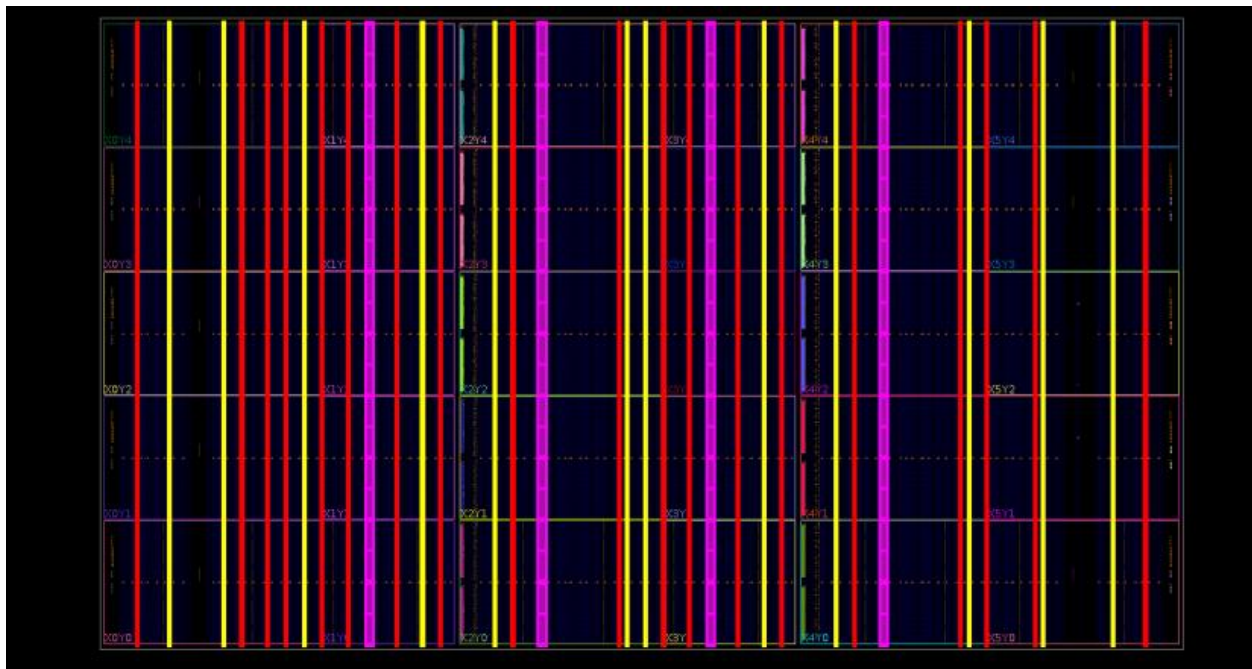

Figure 1: This figure depicts the xcvu3p color-coded macro columnar placement sites for URAM's (magenta), BRAM's (yellow) and DSP's (red).
6. design.scl: Extended from the original bookshelf format to represent a target device layout and permissible site locations for all placeable ~~object~~ instance types (please refer to Figure 1).